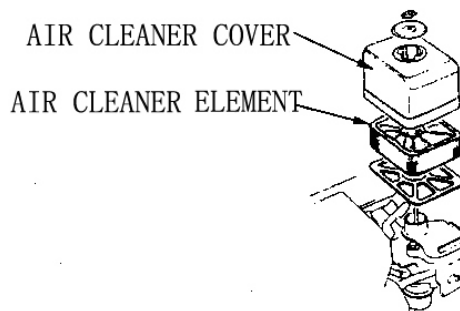

Fig. 5
- d. Inspect the filter element(s). Cleaning or replace it if necessary. See figure 5.